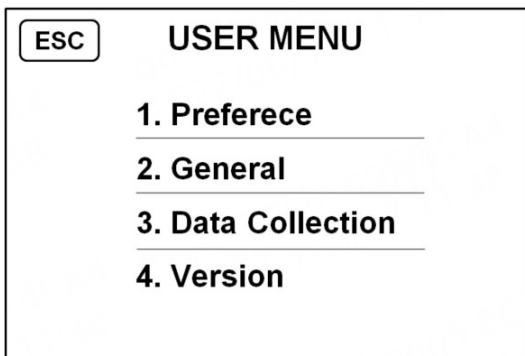
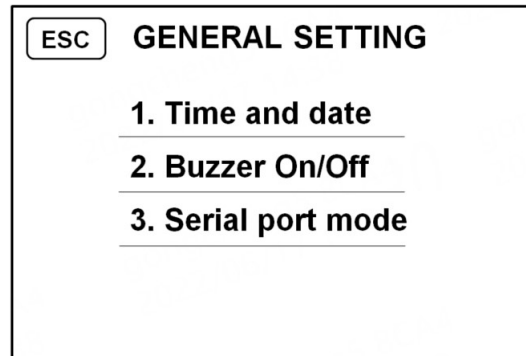

Figure 26
Figure 47
1) Press the **"MENU"** key to enter the USER MENU main interface, as shown in Figure 26 below. Touch "2. General" to enter the GENERAL SETTING interface, as shown in Figure 47 below: